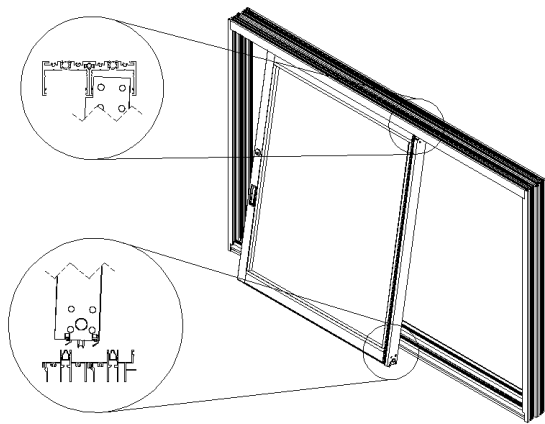

Figure 15:
1. From the outside, with the weather-strip facing outside, insert the “X” panel into the furthest channel of the head. Push up and swing the bottom of the panel in (Figure 15) and down onto the sill. Ensure the rollers are correctly seated on the stainless-steel track.